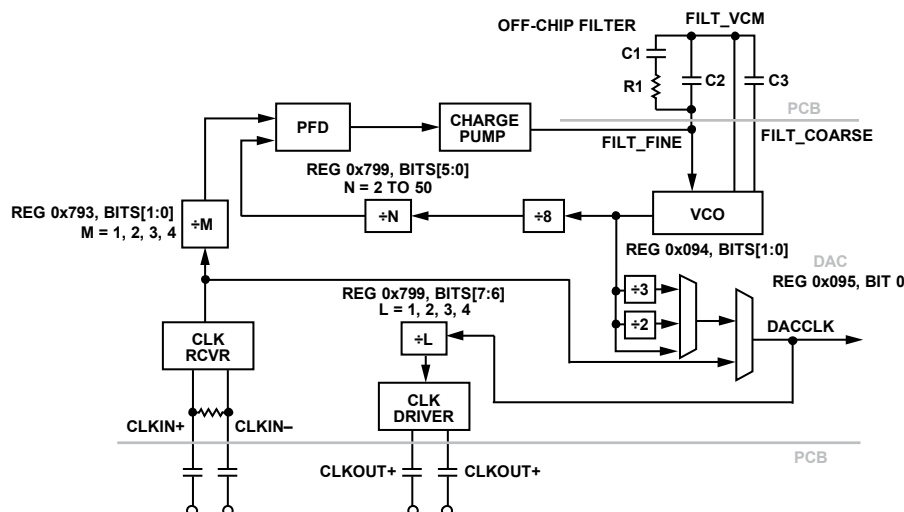

Figure 90. DAC PLL and Clock Path Block Diagram
The AD9174 includes an integer PLL/VCO block that allows generating a DAC clock (f_{DAC}) from an external reference frequency (f_{REF}) between 25 MHz and 3080 MHz, applied to the CLKIN± pins (see Figure 90). When using the on-chip PLL, select the predivider (M) via Register 0x793, Bits[1:0] to internally divide the reference frequency to be within the range of 25 MHz to 770 MHz of the phase frequency detector (PFD) circuitry block input. Enable the DAC PLL synthesizer by setting Register 0x095, Bit 0 to 0.
To generate the required VCO control voltage from the charge pump (CP) output, the AD9174 DAC PLL requires an external loop filter. The recommended filter is a passive low-pass filter of a topology similar to the one shown in Figure 90. Generally, the pass band width of the filter (bandwidth) trades off loop response time during a frequency change with loop stability after the initial frequency lock occurs. For proper filter layout and component selection, which results in optimal performance for most applications, refer to the documentation of the AD9174-FMC-EBZ evaluation board. The user may however customize the filter to fit a specific application, according to the PFD